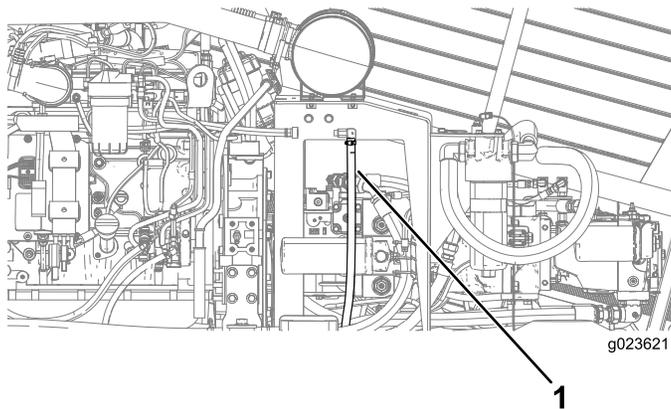

Figure 83
3. Gently pull the crankcase-vent tube out (Figure 83).
4. Clean the end of the crankcase-vent tube (Figure 83).